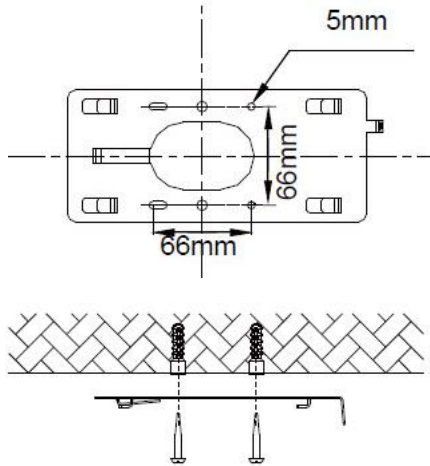

Figure 3
- 7:** Mount quick mount plate to junction box or desired surface. Use plate as a template. (Figure 3)